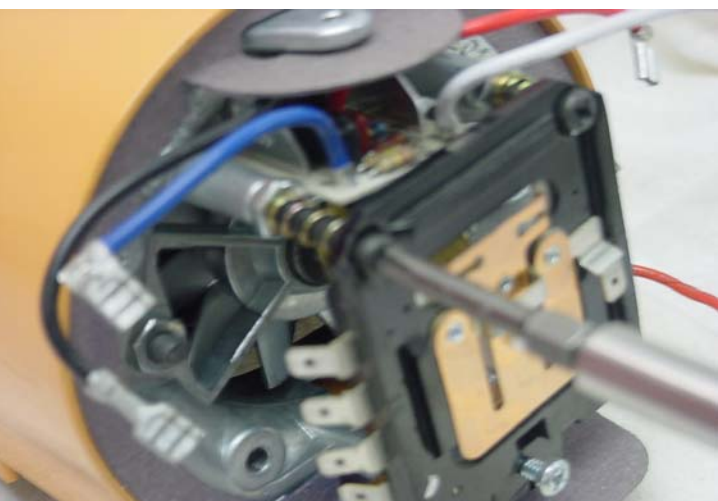

Fig. 49 Placing the control board on the bearing bracket.
O. Place the control plate on the bearing bracket with the adjusting screws at the top (Fig. 49).